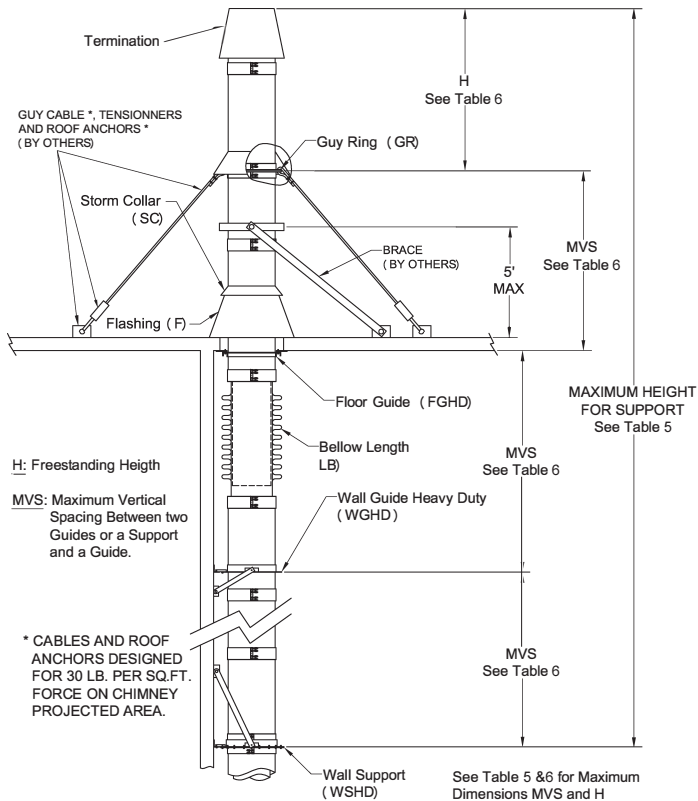

Figure 3 - Maximum Supported Height
3. Supports and guiding methods and installation are described in **SECTION E-SUPPORTS**. Certain limitations apply for proper installation of supports and guides. **See Tables 5, 6, 7 and Figures 3 and 4.**
1. Proper guying and bracing is essential for part of the chimney that extends above the roof or parapet wall. The chimney at this point is subject to wind conditions and needs special attention for proper stabilization. **See Figure 3.**